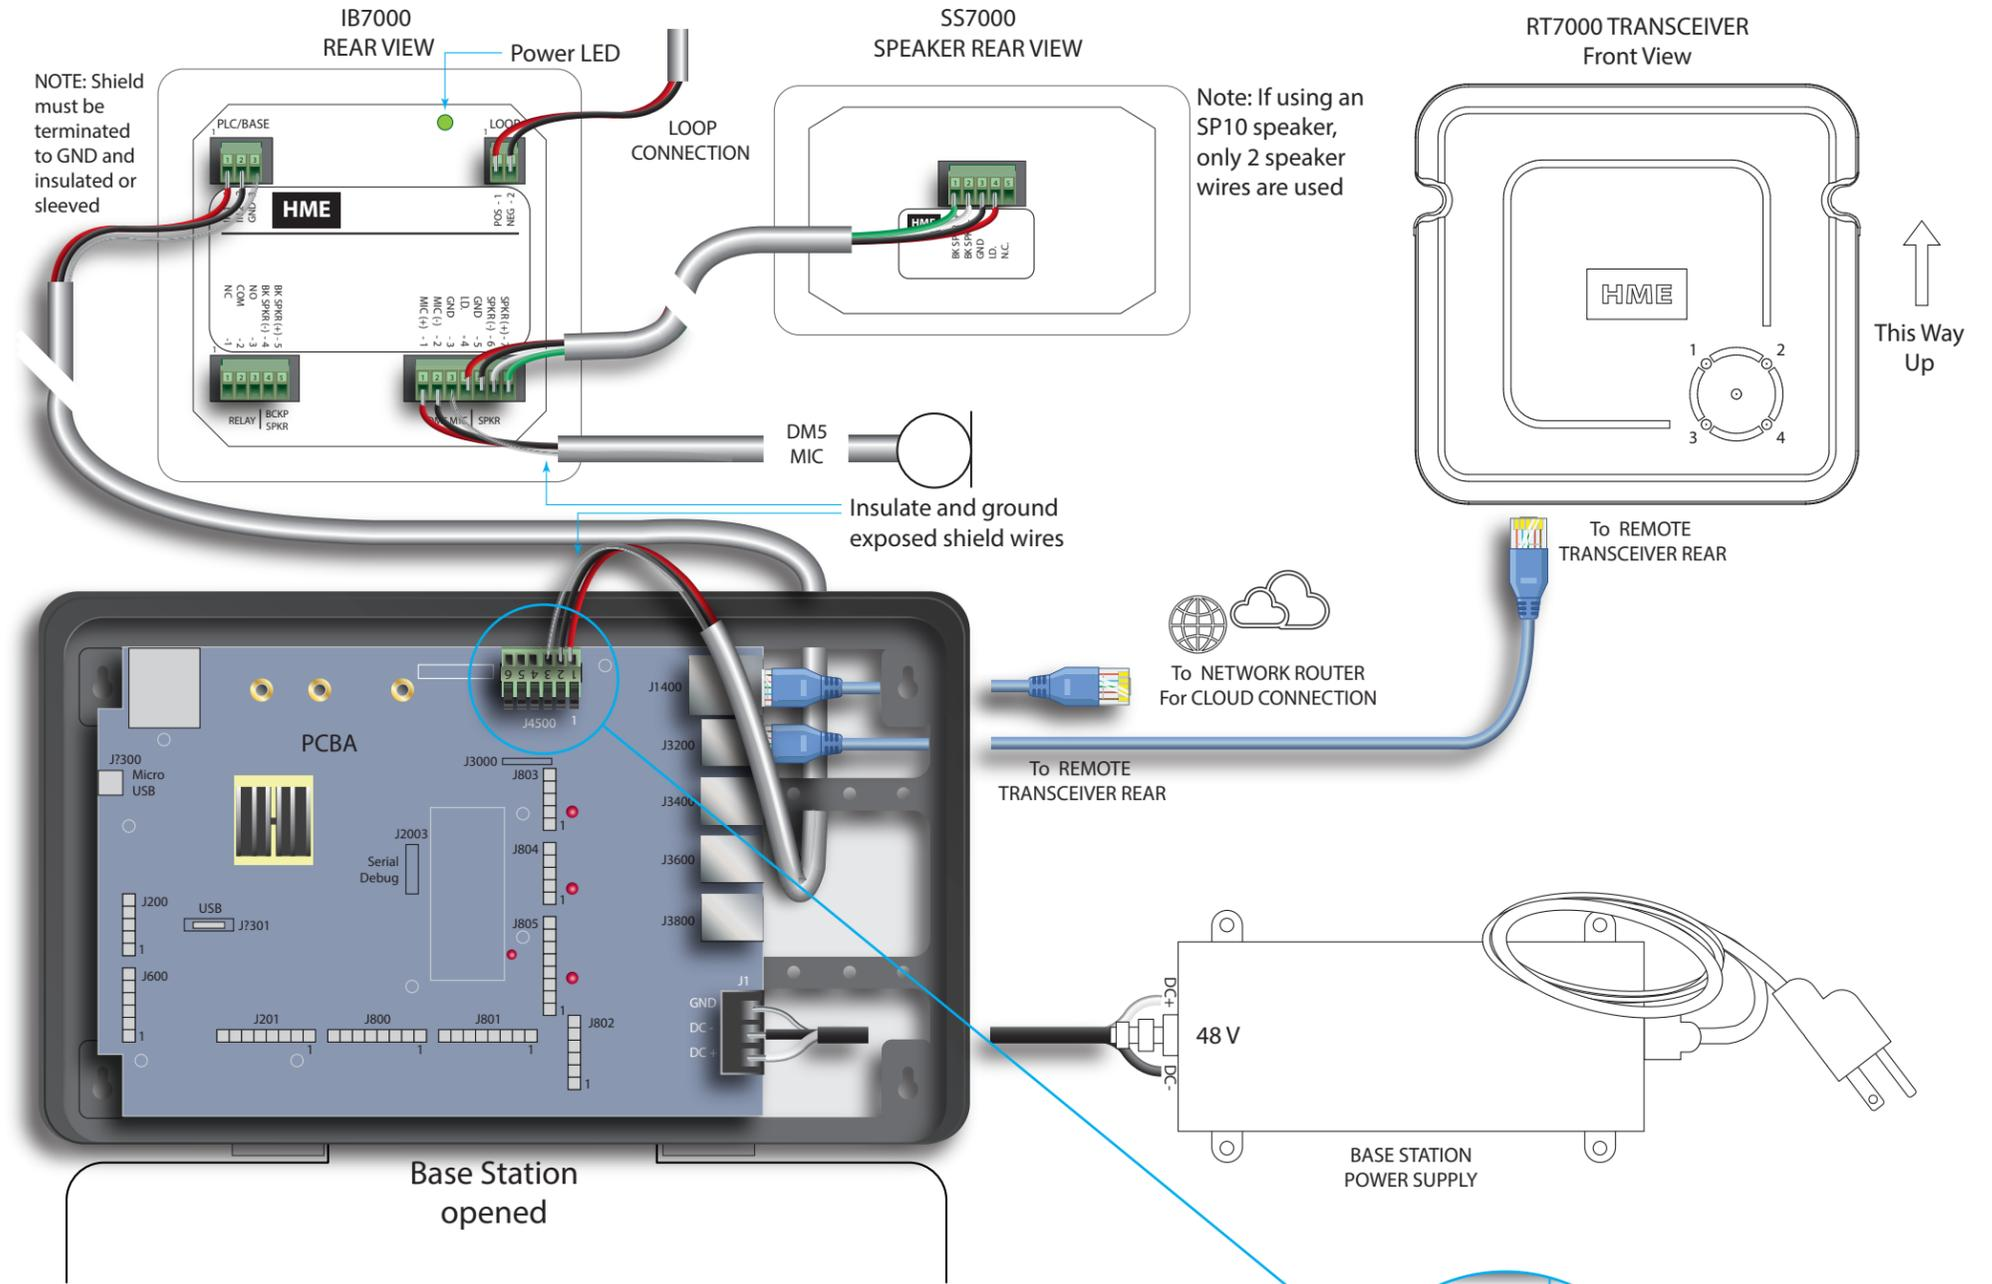

Fig. 2.3
- 6 Install the other components. The DM5 microphone and SS7000 speaker, or SP10 speaker, must be installed using the IB7000 interface box. Use Fig. 2.3 as a wiring reference and see “Component Notes” on page 3.
**J4500 Detail:** Fig. 2.3 shows the connections for a single-lane drive-thru. Fig. 2.4 shows the connections for a dual-lane drive-thru.